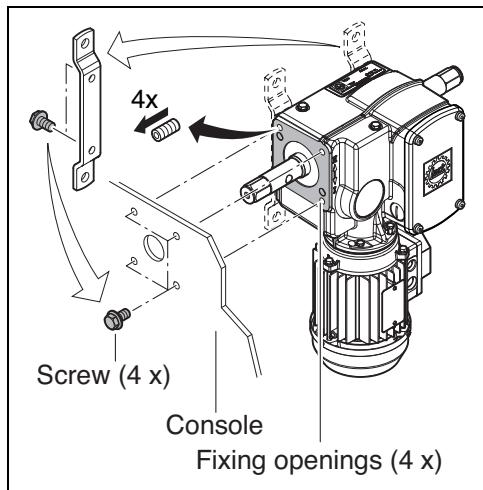

Fig. 4
- Pay attention to the screw-in depth and install the drive loosely on the console by screwing 4 screws into the fixing openings. Minimum strength of screws 8.8 (see Fig. 4).